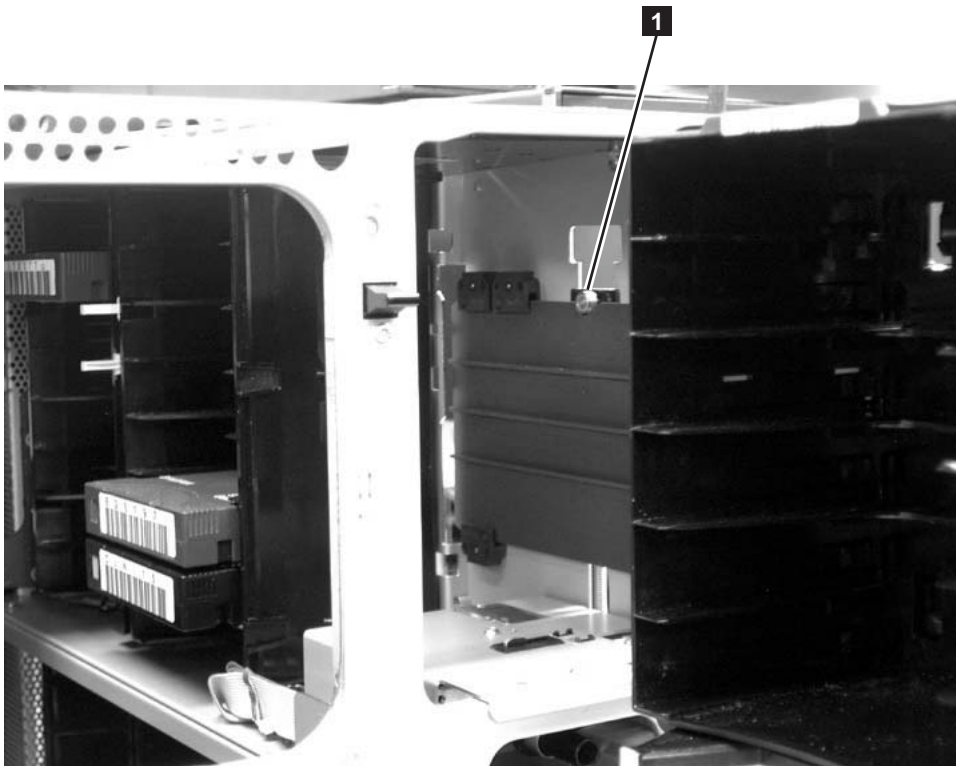

Figure 8-22. Silver roller locking the I/O Station slide in place
2. Reaching through the Access Door opening, push up on the roller (**1** in Figure 8-22) located above the I/O Station slide and pull the I/O Station towards you until the slide is in front of the roller.
2. Reaching through the Access Door, push up on the silver roller (**1** in Figure 8-22 on page 8-26) while continuing to push the I/O Station into the library module.